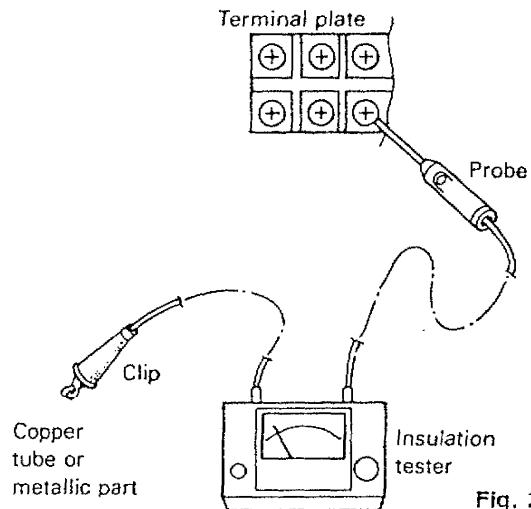

Fig. 2
Clamp the aluminum plate fin or copper tube with a lead clip of the insulation resistance tester and measure the resistance by placing a probe on ①, and then ② on the terminal plate. (Fig. 2)